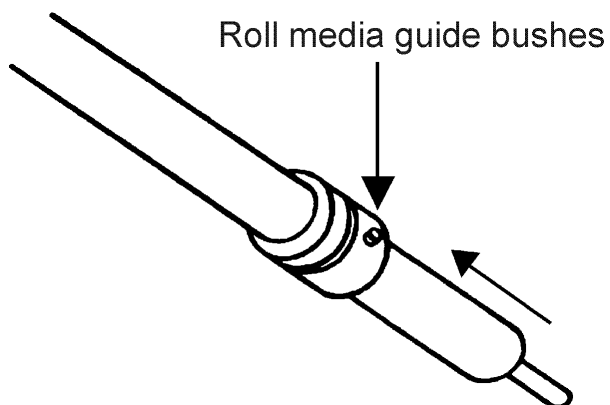

Figure 2-21
1. Put the roll media guide bushes on two roll holders (**Figure 2-21**).